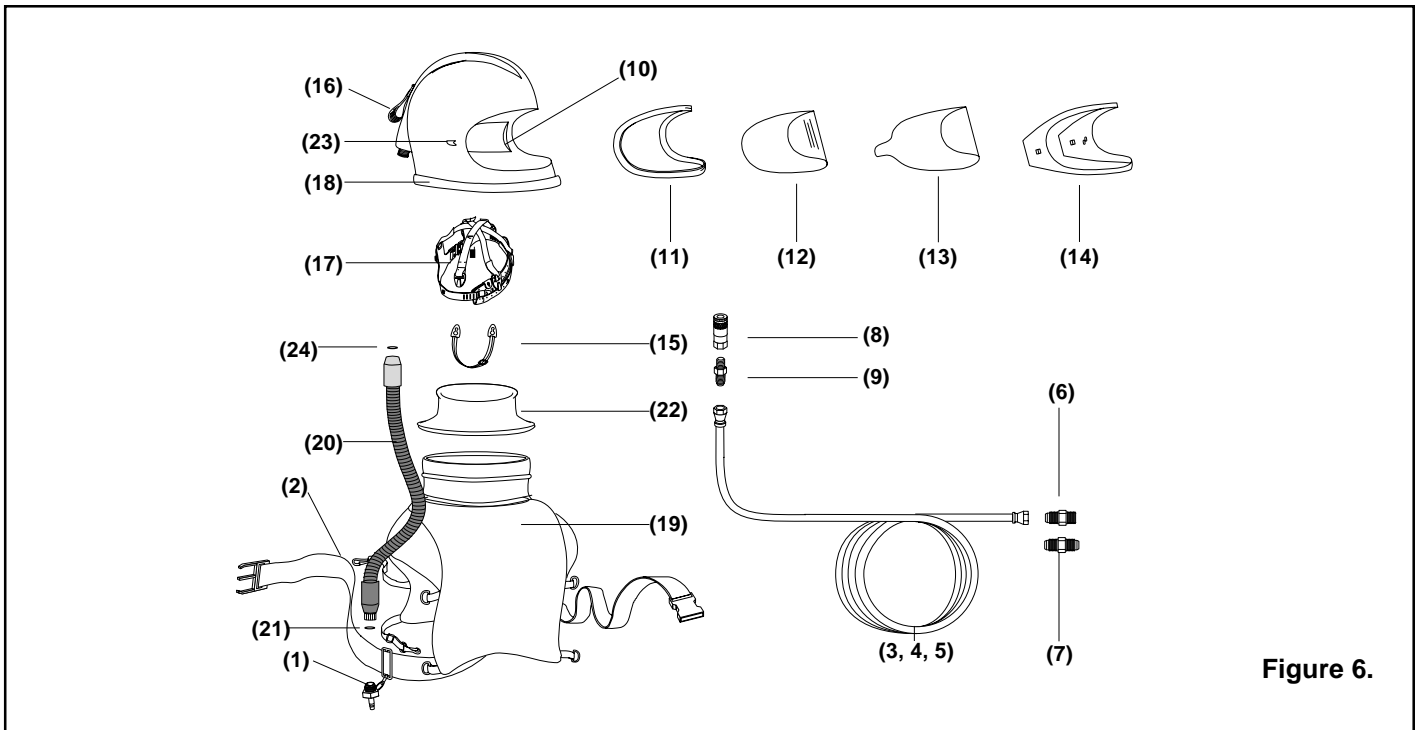

Figure 6.
10.2 Supplied-Air Respirator, Figure 6